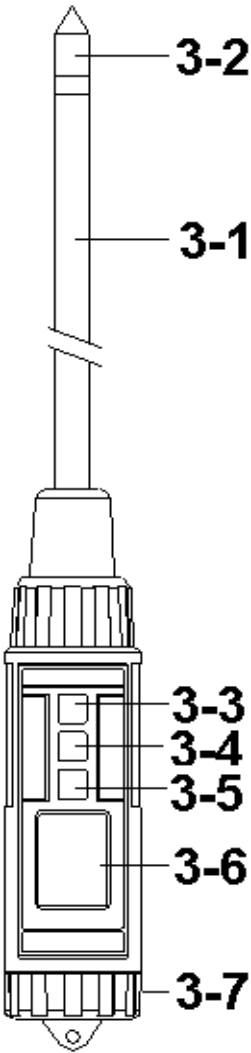

Fig. 1
1) Turn on the meter by pressing the " Power Button " (3-3, Fig. 1) momentarily.
** Press the " Power Button " (3-3, Fig. 1) momentarily again will turn off the meter.*
2) Insert the " Moisture sensing head " (3-2, Fig. 1) into the measured soil.
- * During the measurement, press the " Hold Button " (3-4, Fig. 1) momentarily to hold the measured value. The LCD will show a " HOLD " symbol.
1) The data record function records the maximum and minimum readings. Press the " REC Button " (3-5, Fig. 1) momentarily to start the Data Record function, shows " REC " on the display.
a) Press the " REC Button " (3-5, Fig. 1) momentarily, the " REC MAX " symbol along with the maximum value will appear on the display.
b) Press the " REC Button " (3-5, Fig. 1) momentarily again, the " REC MIN " symbol along with the minimum value will appear on the display.
** When display shows " REC MAX " or " REC MIN ", press the " Hold Button " (3-4, Fig. 1) momentarily will delete the max. (min.) value, the display will show the " REC. " only and execute the memory function continuously.*
- * To change the batteries, open (rotate clockwise direction) the " Battery Cover " (3-7, Fig. 1).
- * Make sure the " Battery cover " (3-7, Fig 1) is secured after changing the batteries.